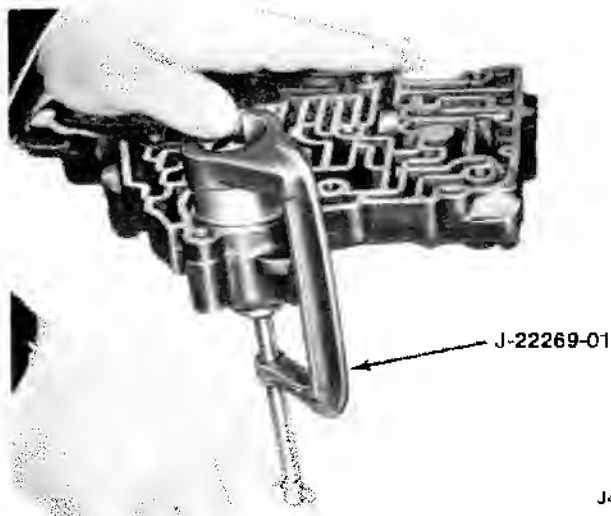

Fig. 7-50 Removing S-Type Retaining Ring
- (1) Position control valve assembly with cored face up and accumulator pocket nearest operator.
- (2) Remove manual valve from upper bore.
- (3) With Ring Remover and Installer Tool J-22269 (1), remove retaining ring at accumulator piston (fig. 7-50).
J-22269-01, and secure piston with E-type retaining ring as shown in figure 7-50.